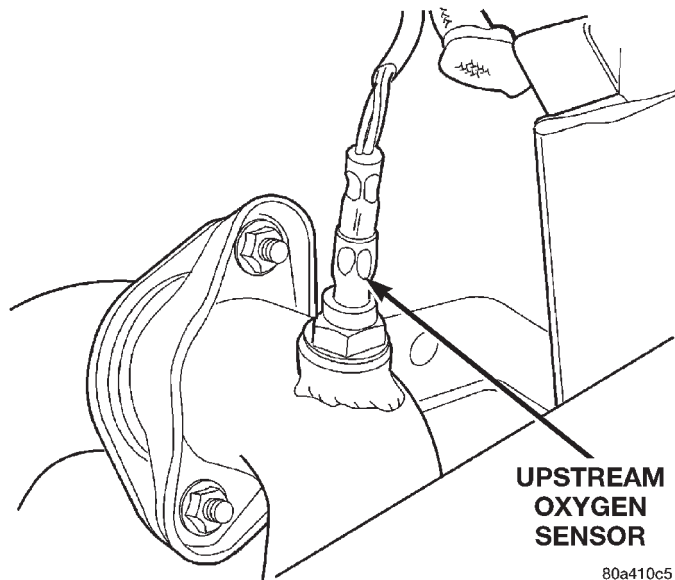
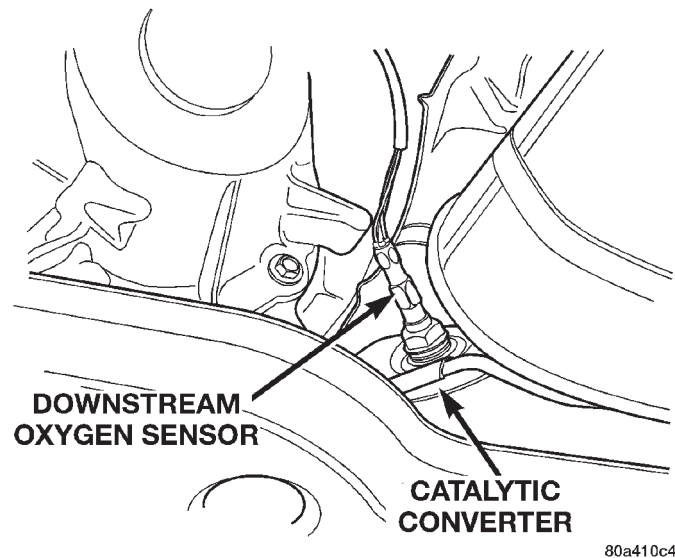

Fig. 23 Upstream Oxygen Sensor
Fig. 24 Downstream Oxygen Sensor
- (20) Raise and support vehicle.
- (21) Verify that both oxygen sensor wire connectors are firmly connected to sensors. Inspect sensors and connectors for damage (Fig. 23) or (Fig. 24).